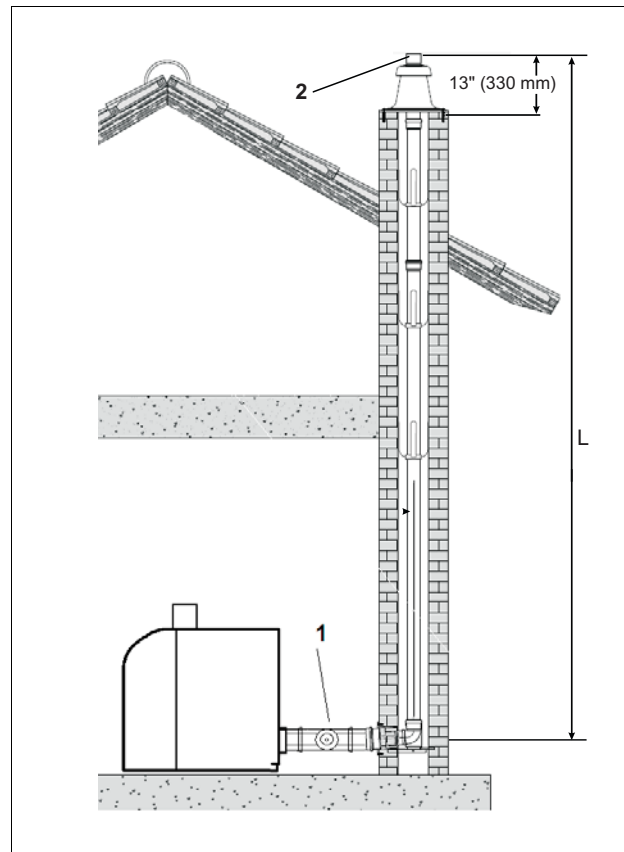

Fig. 8 Measure out pipe length (dimensions in mm)
- Place load bearing elbow (Fig. 8, **Item 1**) in the middle on the support rail in the chimney.
- Determine pipe length L between sleeve of the load bearing elbow and termination (Fig. 8, **Item 2**) with the help of the mounting cable.